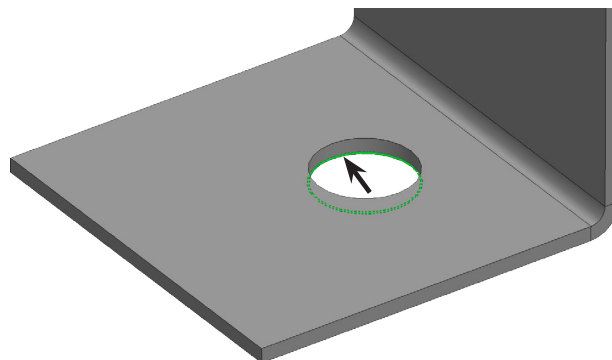

Fig. 14
Step 2. Click the **bottom circular edge of hole** to select edge, **Fig. 14**.